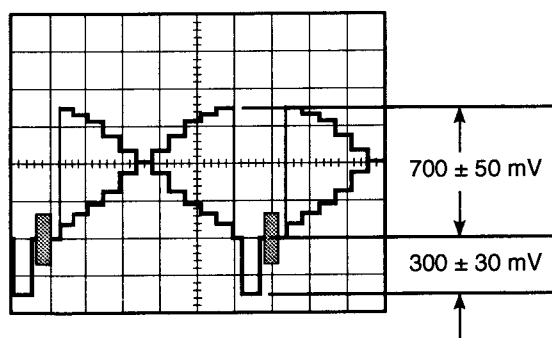

Fig. 5-29
- Confirm that the Video signal becomes 700 ± 50 mV as shown in Fig. 5-29.
- If not, adjust data with the **ARROW** keys so that the Video signal level becomes 700 ± 50 mV as shown in Fig. 5-29.